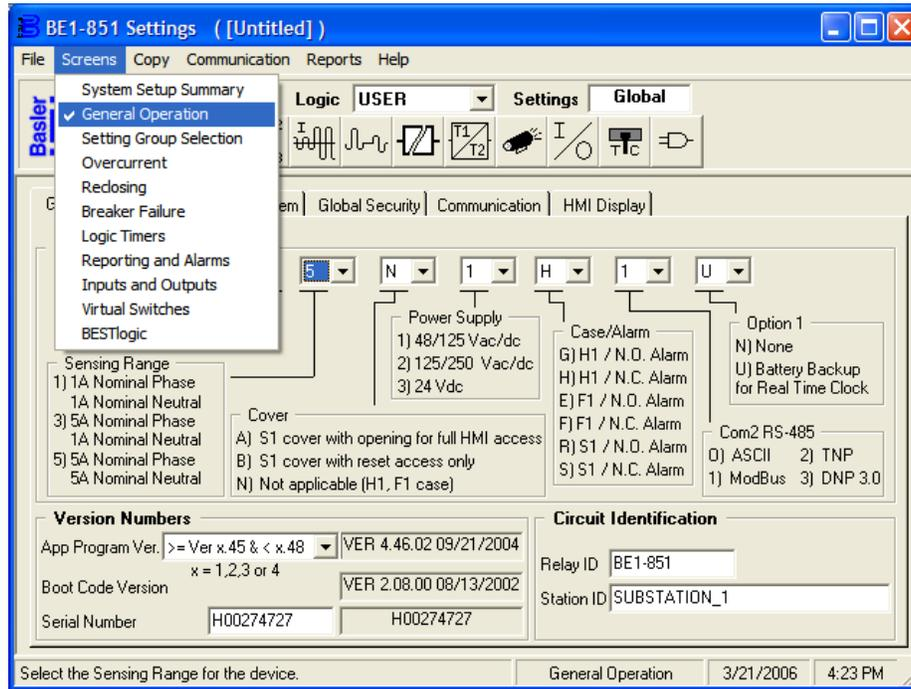

Figure 2-4. Screens Pull-Down Menu
The BE1-851 relay requires information on the nominal system frequency, DSP filtering, Current Transformer (CT) ratio, and phase rotation for proper current measurement to occur. These settings can be made using BESTCOMS. Select *General Operation* from the Screens pull-down menu. Then select the tab labeled *Power System*. Refer to Figure 2-4.